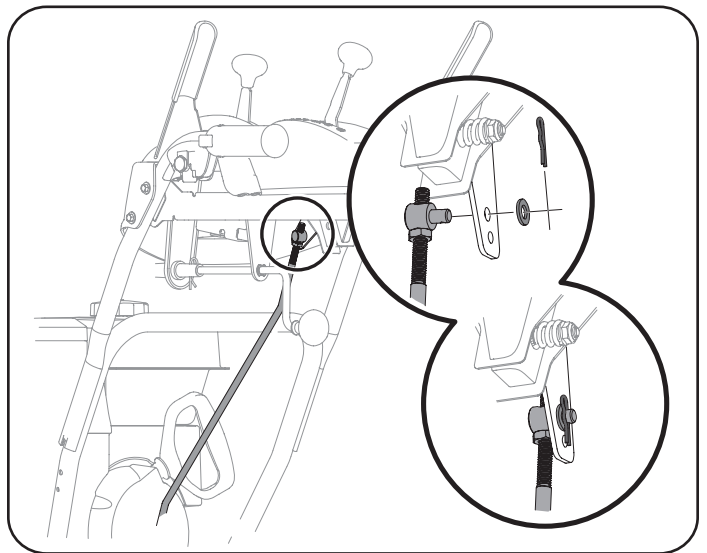

Figure 31
- Remove cotter pin and washer from ferrule on end of shift rod. See Figure 31 inset.
10. Insert ferrule into top hole of shift lever and secure with cotter pin (a) and washer (b) removed in Step 8. See Figure 31. Ferrule may need to be adjusted up or down.